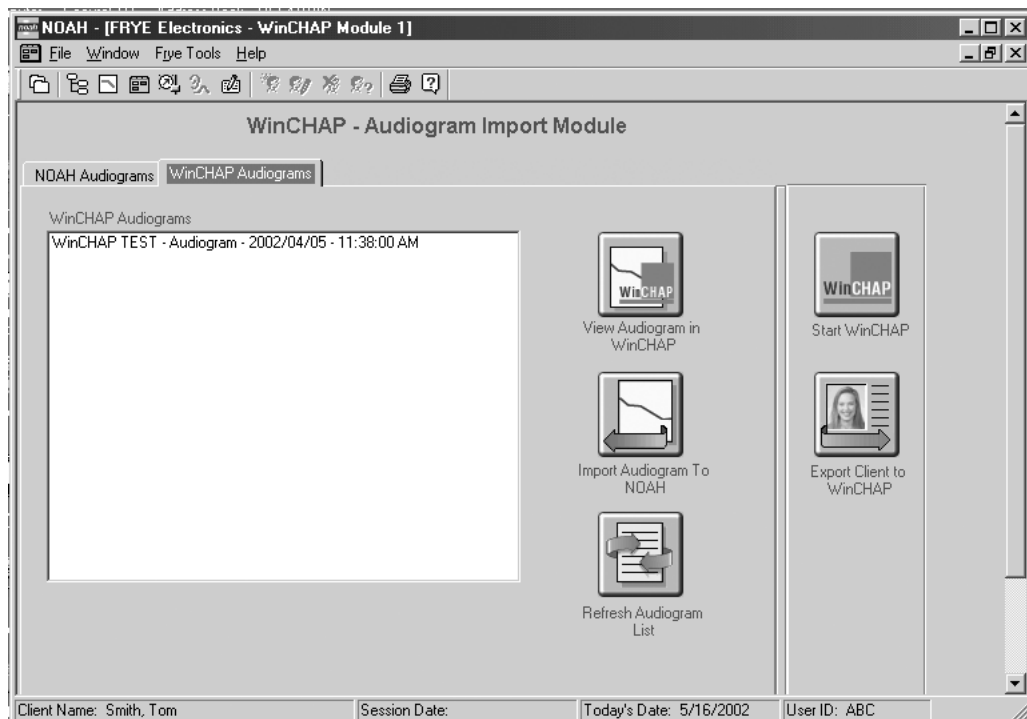

Figure 8.4—Viewing WinCHAP audiograms
1. Click on the WinCHAP Audiogram tab to enter the WinCHAP Audiogram Section and display the window shown in Figure 8.4.